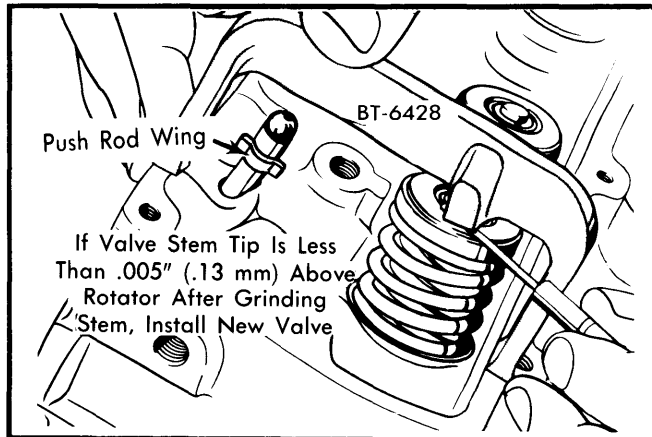

Fig. 5 Measuring Rotator Height
3) Measure clearance between gauge and valve rotator. Clearance must be .030" (.76 mm) minimum. If any valve is less than .005" (.13 mm) above rotator, valve is too short and must be replaced. See Fig. 5.